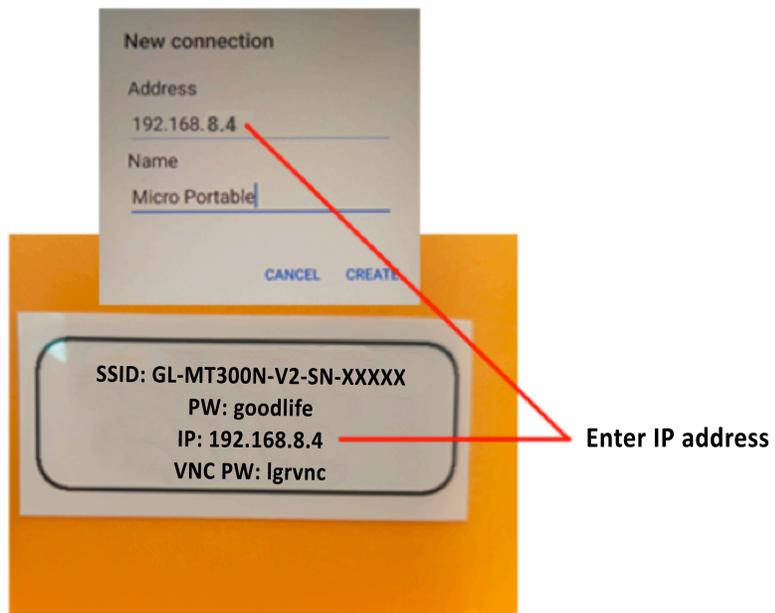

Figure 16: New Connection Server (Analyzer) Address
4. The *New connection* screen appears. Enter the *Address* parameter of the *New connection: Wireless IP* on the analyzer label, as shown in Figure 16.
5. Enter the name of the device to be connected under *Name*. The *Name* parameter shown in Figure 16 is only an example.